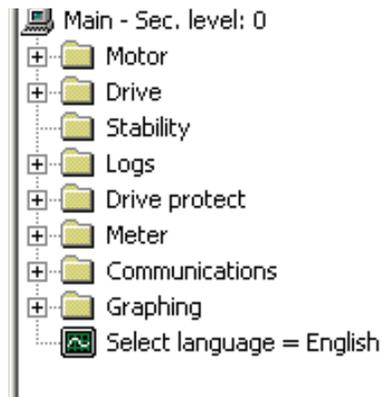

Figure 4-24: : Example of Main Menu
- Drive Menu (2)
- Stability Menu (3)
- Auto Menu (4)
- Log Control Menu (6)
- Drive Protect Menu (7)
- Meter Menu (8)
- Communications Menu (9)
The contents of submenus 1-4 are explained earlier in this chapter. The contents of submenus 6-9 are explained later in this chapter. All of these submenus can be accessed directly using the keypad or from the Main Menu (5). Refer to the appropriate sections elsewhere in this chapter for descriptions of menu options within these submenus. Figure 4-24 depicts a typical menu selection from the Main Menu level.